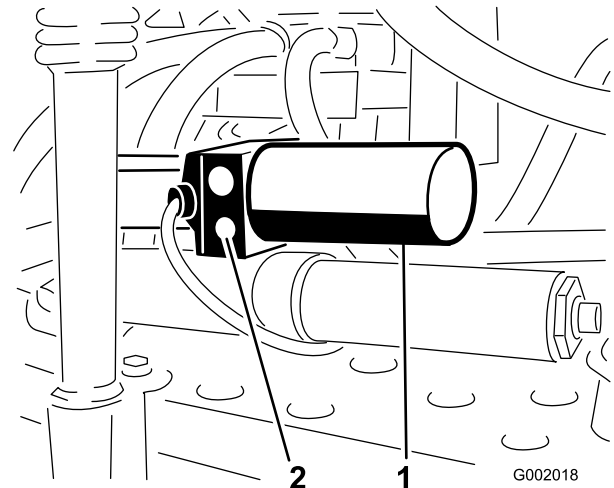

Figure 51
1. Locate the manual relief valve on the actuator for each boom. The manual relief valve is the smaller valve and is only on one side of the actuator body (Figure 51).